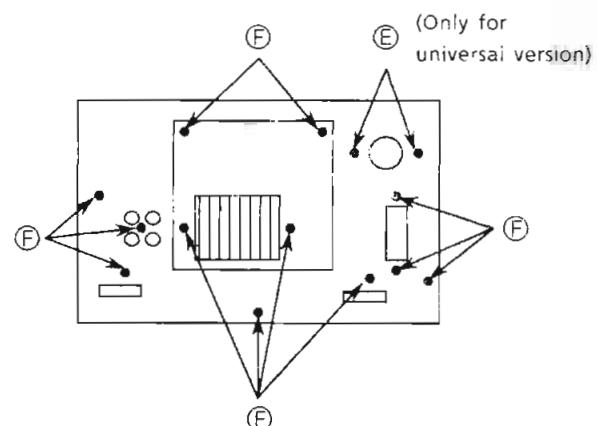

Figure 5 Rear view
2. Remove the screws \textcircled{E} and \textcircled{D} (Figure 5).